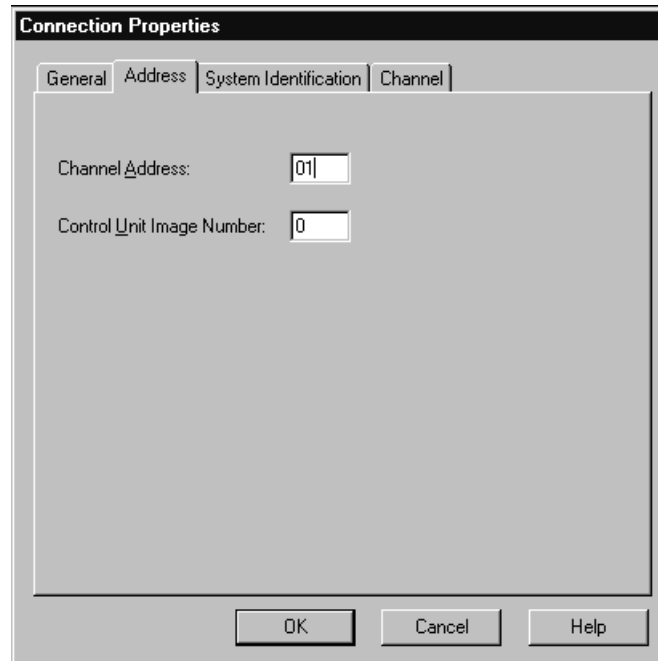

Figure 8-15. Channel Address
4. The Channel Address dialog box appears (Figure 8-15).